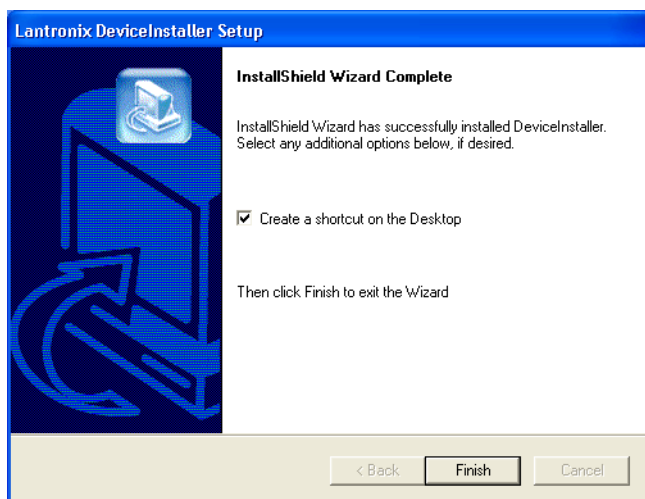

Figure 17: InstallShield Wizard Complete
16. Click on the button to complete the installation process. The InstallShield Wizard Complete window appears (see Figure 17).